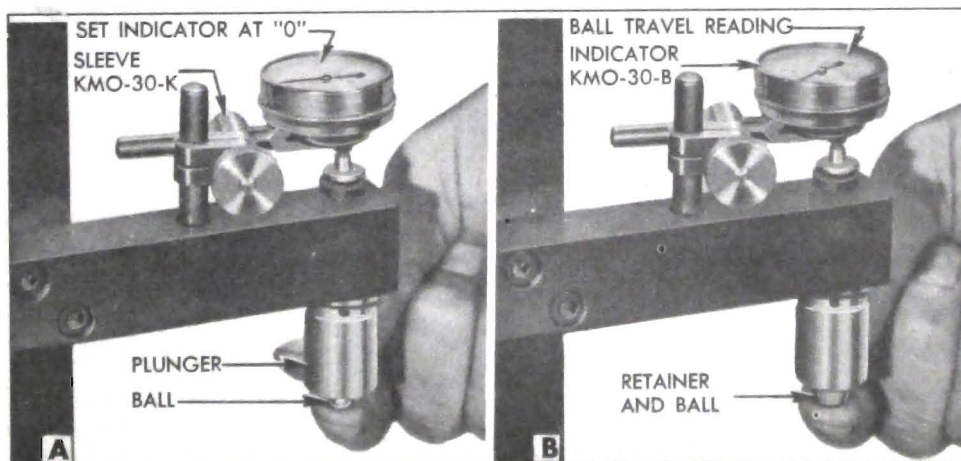

Figure 2-23—Checking Ball Travel
1. Prepare the ball travel checking attachment of Test Fixture J 5095 by using Sleeve KMO-30-K to mount Dial Indicator KMO-30-B so that stem of indicator bears squarely on upper end of the pin in attachment. See figure 2-23.
2. Place a new check ball in the seat in lifter plunger, then hold plunger and ball firmly against the attachment arm with plunger centered over the pin and stepped flange. See figure 2-23, view A.
5. Center the plunger over the pin and stepped flange of the check attachment and while pressing plunger and retainer firmly against attachment arm note the dial indicator reading. See figure 2-23, view B.